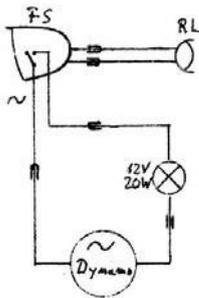

Figure 2
Figure 2 shows the common wiring when the dynamo is mounted on the front wheel. Usually the front headlights (FS) have an AC connection marked \sim for the dynamo and two separate connection contacts for the rear light (RL)